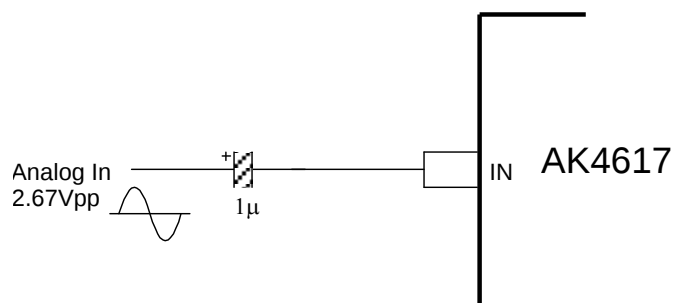

Figure 56. Input Buffer Circuit Example 3 (AC coupled single-ended input)
*2: Refer to Figure 55 and Figure 56.